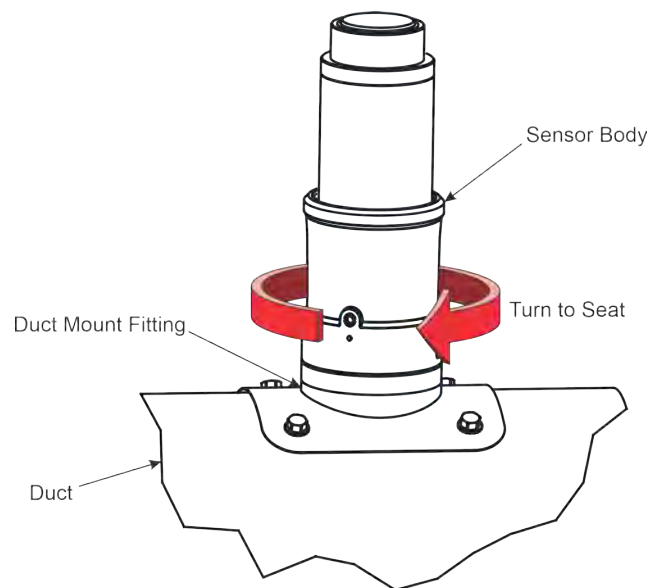

Figure 4-13: Attaching the Meridian Sensor to the Duct Mount Fitting
6. Next, align pins on the sensor body with slot on the body of the duct mount fitting and turn clockwise to seat. Refer to Figure 4-13: Attaching the Meridian Sensor to the Duct Mount Fitting for details.